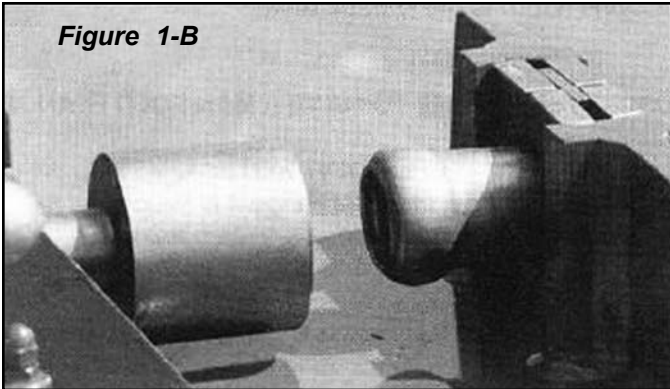

Figure 1-B
11. Slowly move the tool forward until the desired ball is achieved. This procedure requires careful control. (See figure 1-B)